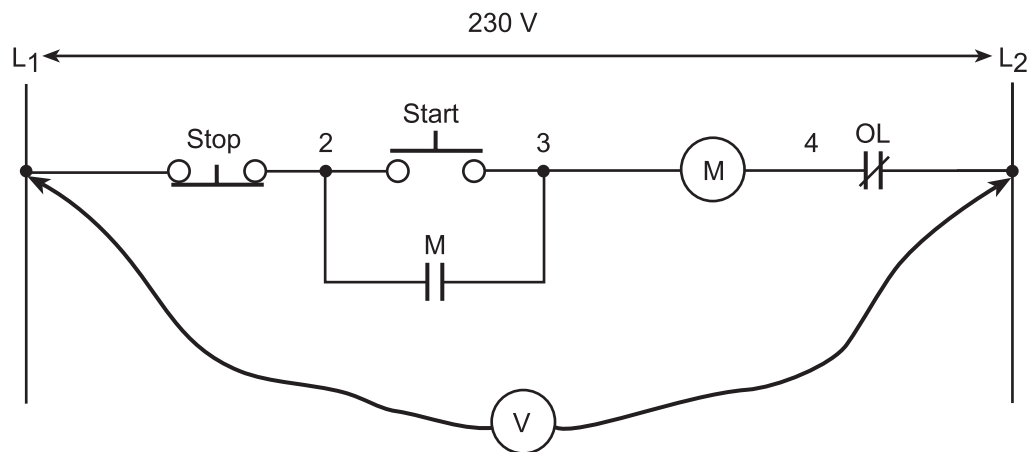

Figure 5—Three-wire control circuit
For example, suppose that when the START button is pressed in the simple control circuit shown in Figure 5, the magnetic starter coil is not energized.
1. Check the control circuit voltage between L_1 and L_2 , as shown in Figure 5.